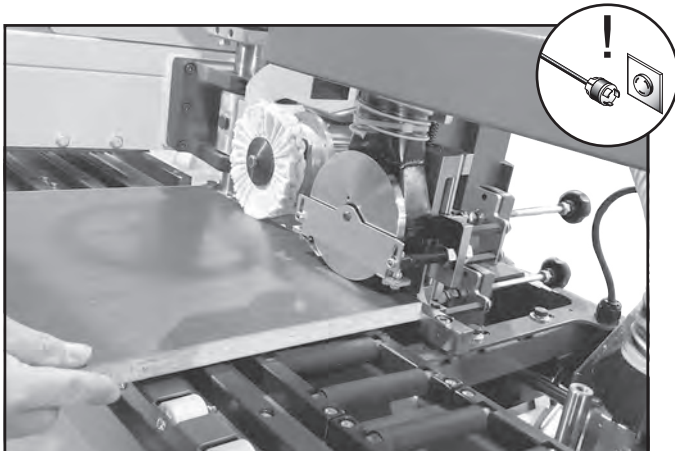

Figure 88. Placing workpiece between buffing wheels.
2. Adjust panel feeder height (see **Page 36**) according to sample workpiece being used, then open panel feeder and place sample workpiece between upper and lower buffing wheels, as shown in **Figure 88**.